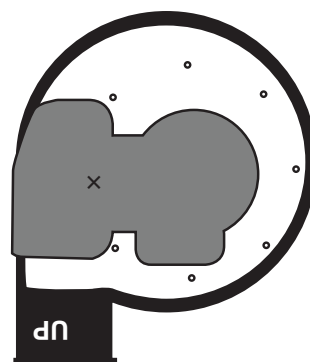

FIG. 7
- 7** Carefully lift Motor Assembly (A) on top of Fan Housing (B) and align the Fan Housing holes with the motor plate holes following the orientation shown in [FIG. 7].